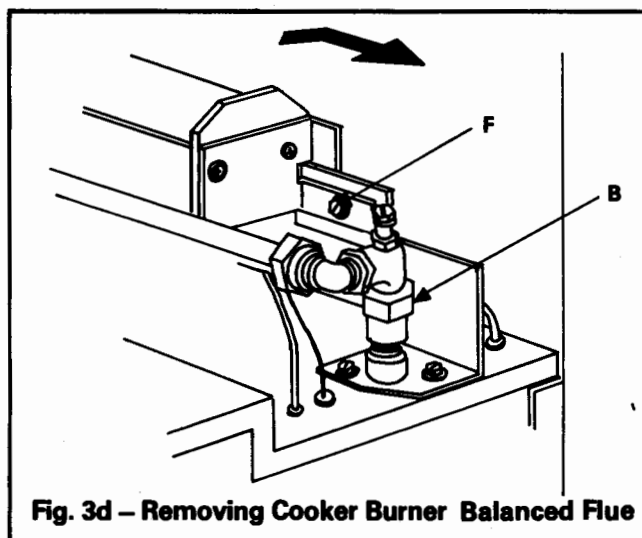

Fig. 3d – Removing Cooker Burner Balanced Flue
- d. (To remove Cooker Burner – Fig. 3d). Remove screw **F** securing main burner to pilot support bracket. Disconnect union fitting **B** and remove burner.